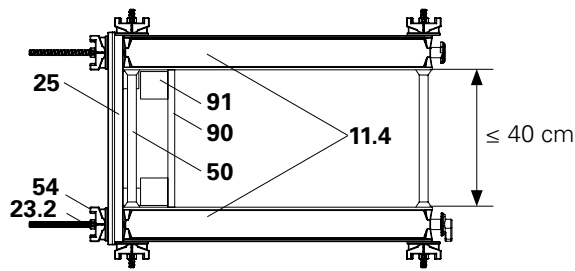

Fig. B9.03a
2. Install the filler plate and two square timbers (**91**). (Fig. B9.03a)